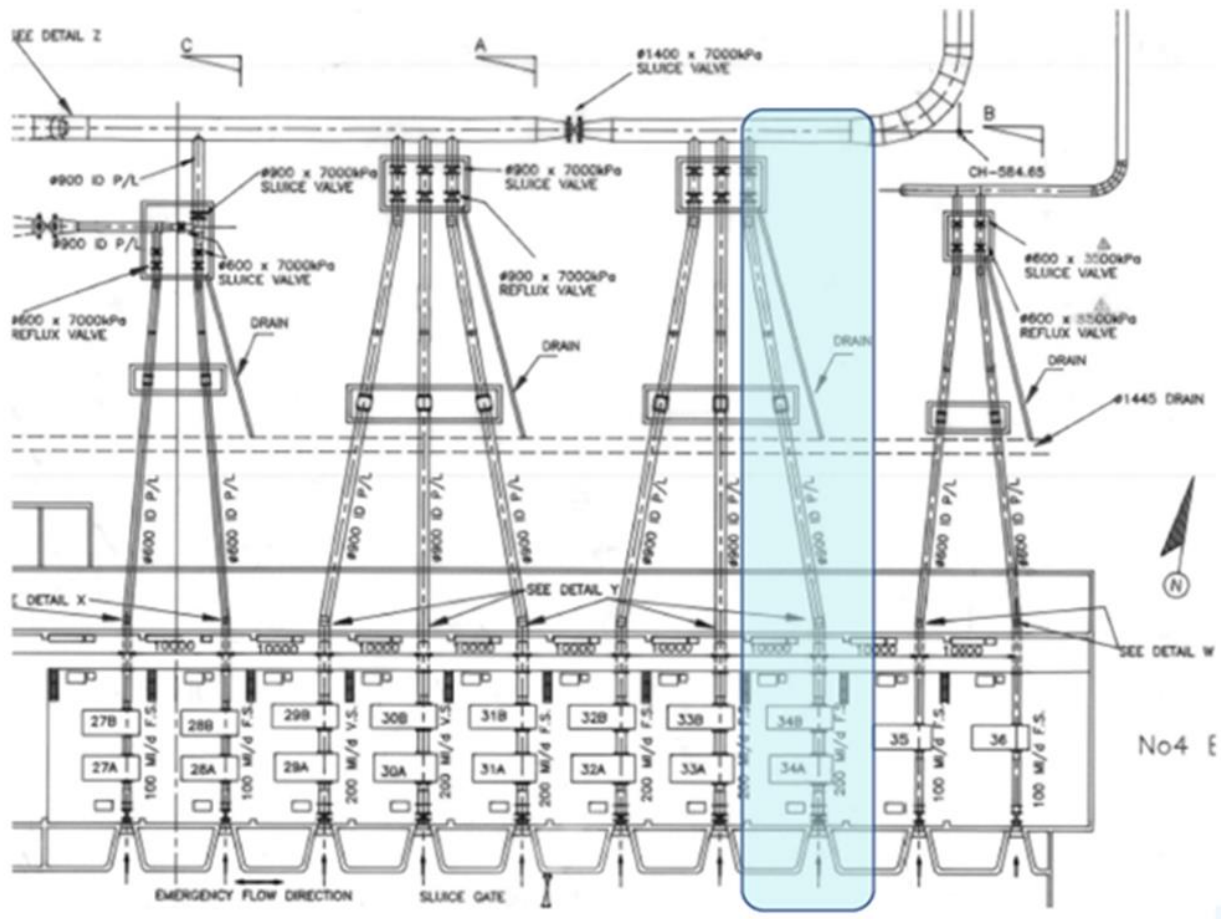

Figure 1: Zuikerbosch (ZB) Pumping Station Engine Room (ER4)
Zuikerbosch (ZB) Pumping Station Engine Room (ER4) delivery and supply lines were constructed and commissioned after 1996, it currently supplies primarily Eikenhof, Palmiet and Zwartkoppies systems through B10, B12 and B15 rising mains or pipelines. The pipelines are fed from pumping station through various delivery lines as indicated in figure 1 hereunder.